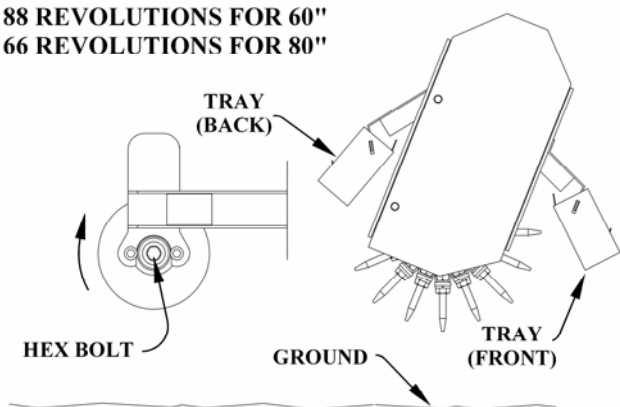

Figure 10. Calibration Tray Position
6. Remove calibration tray from front of hopper and hang it on the seed broadcast bar, Figure 10.
7. With the seeder lifted in the air, use the hex bolt located on the end of the shaft to rotate the roller 100 revolutions (Figure 10):
8. After priming seeder, empty the tray and secure it back on the broadcast bar. Rotate the roller the indicated number of times (Figure 10):